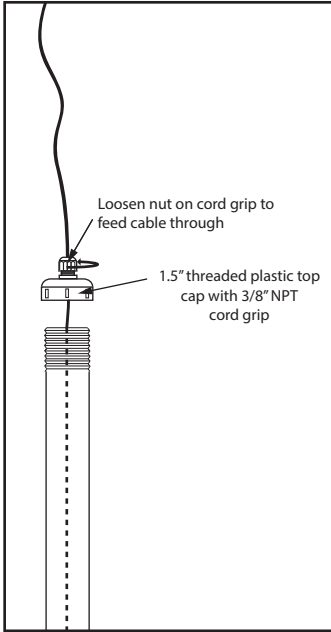

FIG. 11
- C) Feed cable up through pipe and insert into top cap/cord grip assembly. Make sure cord grip is loose when feeding cable through. See FIG11.